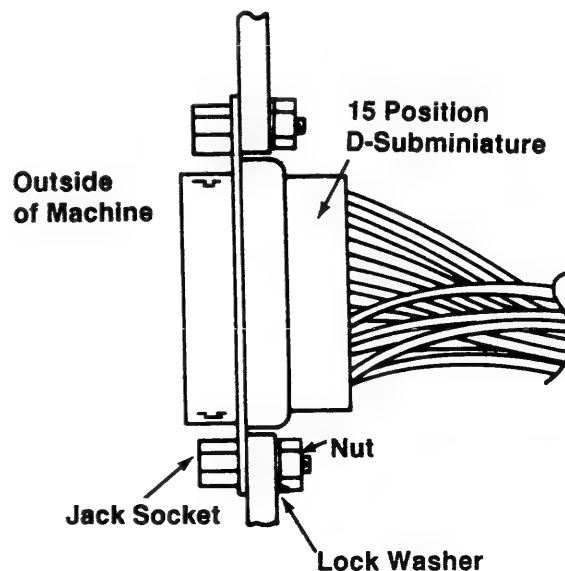

Figure 2-3.2I
27. Secure the 15 position D-Subminiature Connector P103B of the 654 Photo Sense Harness in the "Knockout" area of the Base of the M-654 with a Jacksocket, Lock Washer, and Nut Kit (Item 16). See Figures 2-3.2I and 2-3.2J. Discard the Plain Washers.